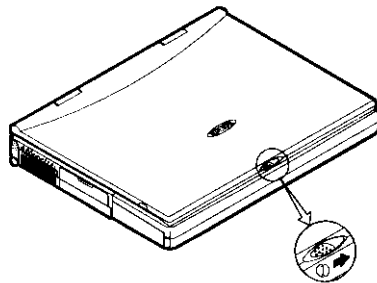

Figure 1-2
1. Push the latch towards the right to open the top cover. (Figure 1-2)